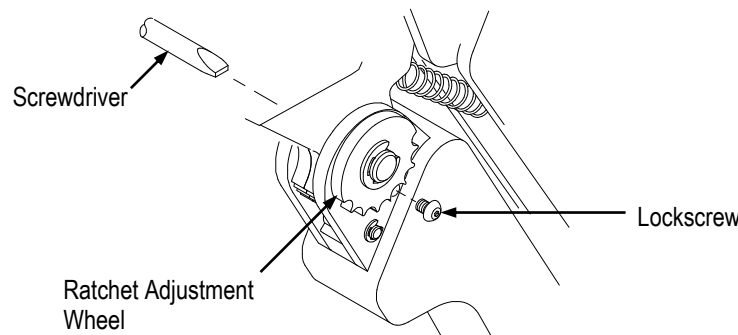

Figure 5
1. Remove the lockscrew from the ratchet adjustment wheel. Refer to Figure 5.